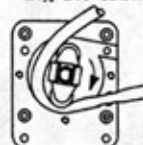

Figure 9-3
- 8 Continue to rotate the bracket assembly, pushing the tubing into the roller race (Figure 9-3).